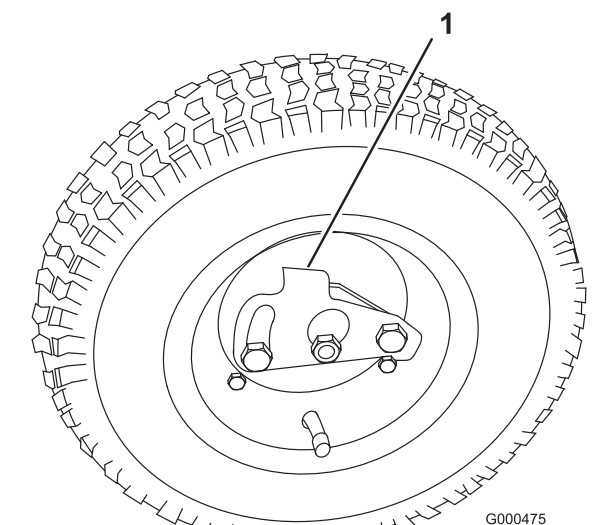

Figure 18
- Press the wheel locking clip toward the center of the wheel and slide the wheel onto the hex shaft (Figure 18).